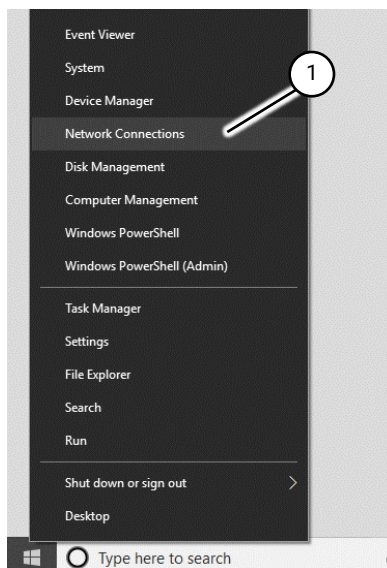

Fig 39 Network connections
1. Right click the start menu icon and selection 'Network Connections' (Fig 39 (1))